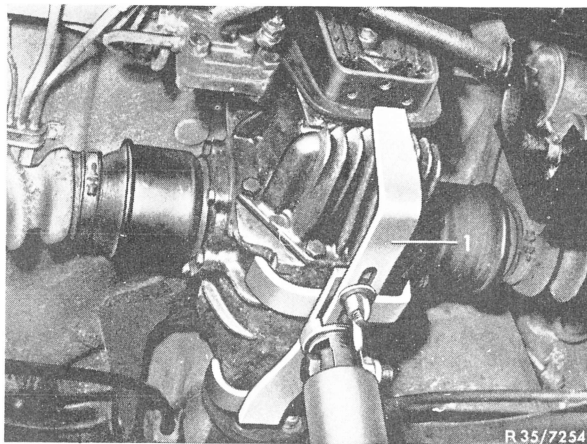

Fig. 6
- 9 Support rear axle housing with vehicle jack or pit lift and pertinent top (Fig. 6).